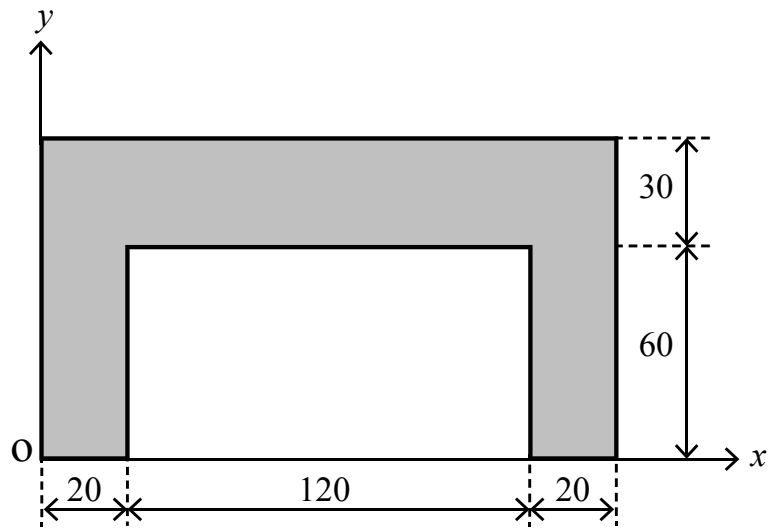

Fig. 2
- 2 Fig. 2 shows the shape and dimensions, expressed in **millimetres**, of the top surface of a component made from ABS plastic with a uniform thickness. The component is shown aligned within a Cartesian coordinate system (x, y) with the origin at point O.
- (i) Calculate the surface area of the plastic shown in Fig. 2, expressing your final answer in **square centimetres**.
- (ii) Calculate the coordinates of the centroid of the surface of the component as shown in Fig. 2.